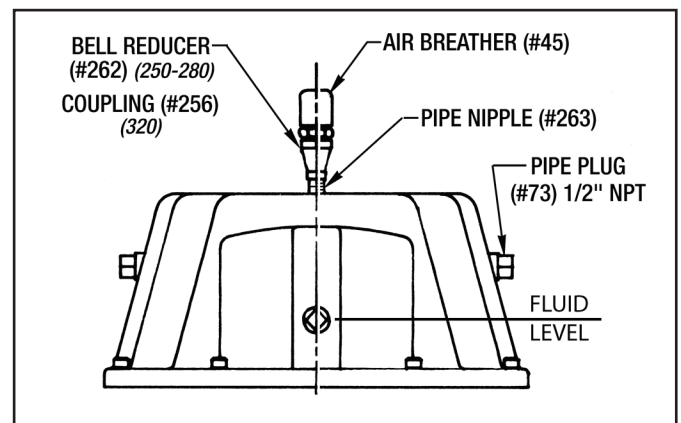

Figure 13 - Air Breather Installation
2. Remove one Pipe Plug (#73) from End Housing (#9) (See *Figure 13*).
3. Remove Air Breather (#45) and Reducing Bushing (#76) from End Housing. (See *Figure 13*)
4. Install Pipe Nipple (#263) in place of Pipe Plug (#73). In the installation of a 250 or 280 motor brake thread Bell Reducer (#262) onto nipple. Or for a 320 motor brake thread Coupling (#256) onto the nipple. Then reinstall Air Breather (#45). (See *Figure 13*)